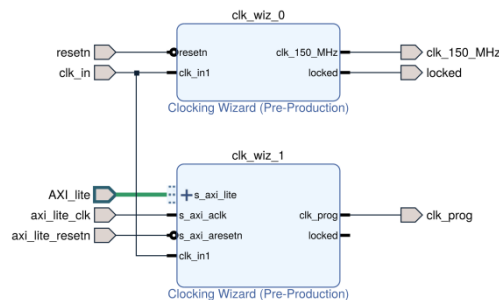

Figure 5: Clock generator.
- **clk_gen** is a hierarchical block including 2 clock generators. The first one generates 150 MHz clock driving AXI streams. The second clock generator is configured to be programmable from the software application, its output clock is used as pixel a clock of the primary video chain. Figure 5 shows the detail of this block.